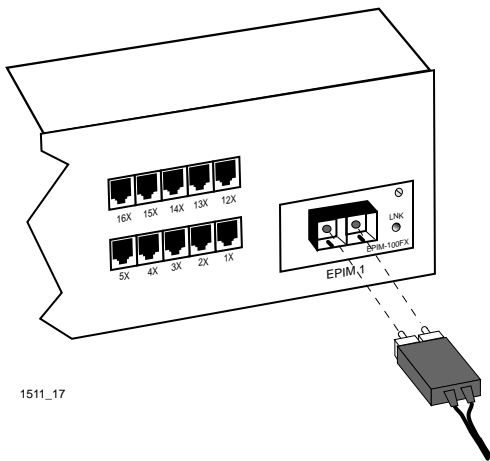

Figure 5-3 EPIM-100FX Port
The EPIM-100FX has an SC style network port (see Figure 5-3). Cabletron Systems supplies fiber optic cables using SC connectors that are keyed to insure proper crossover of the transmit and receive fibers.
2. Insert one end of the SC connector into the EPIM-100FX on the SEHI. See Figure 5-3.